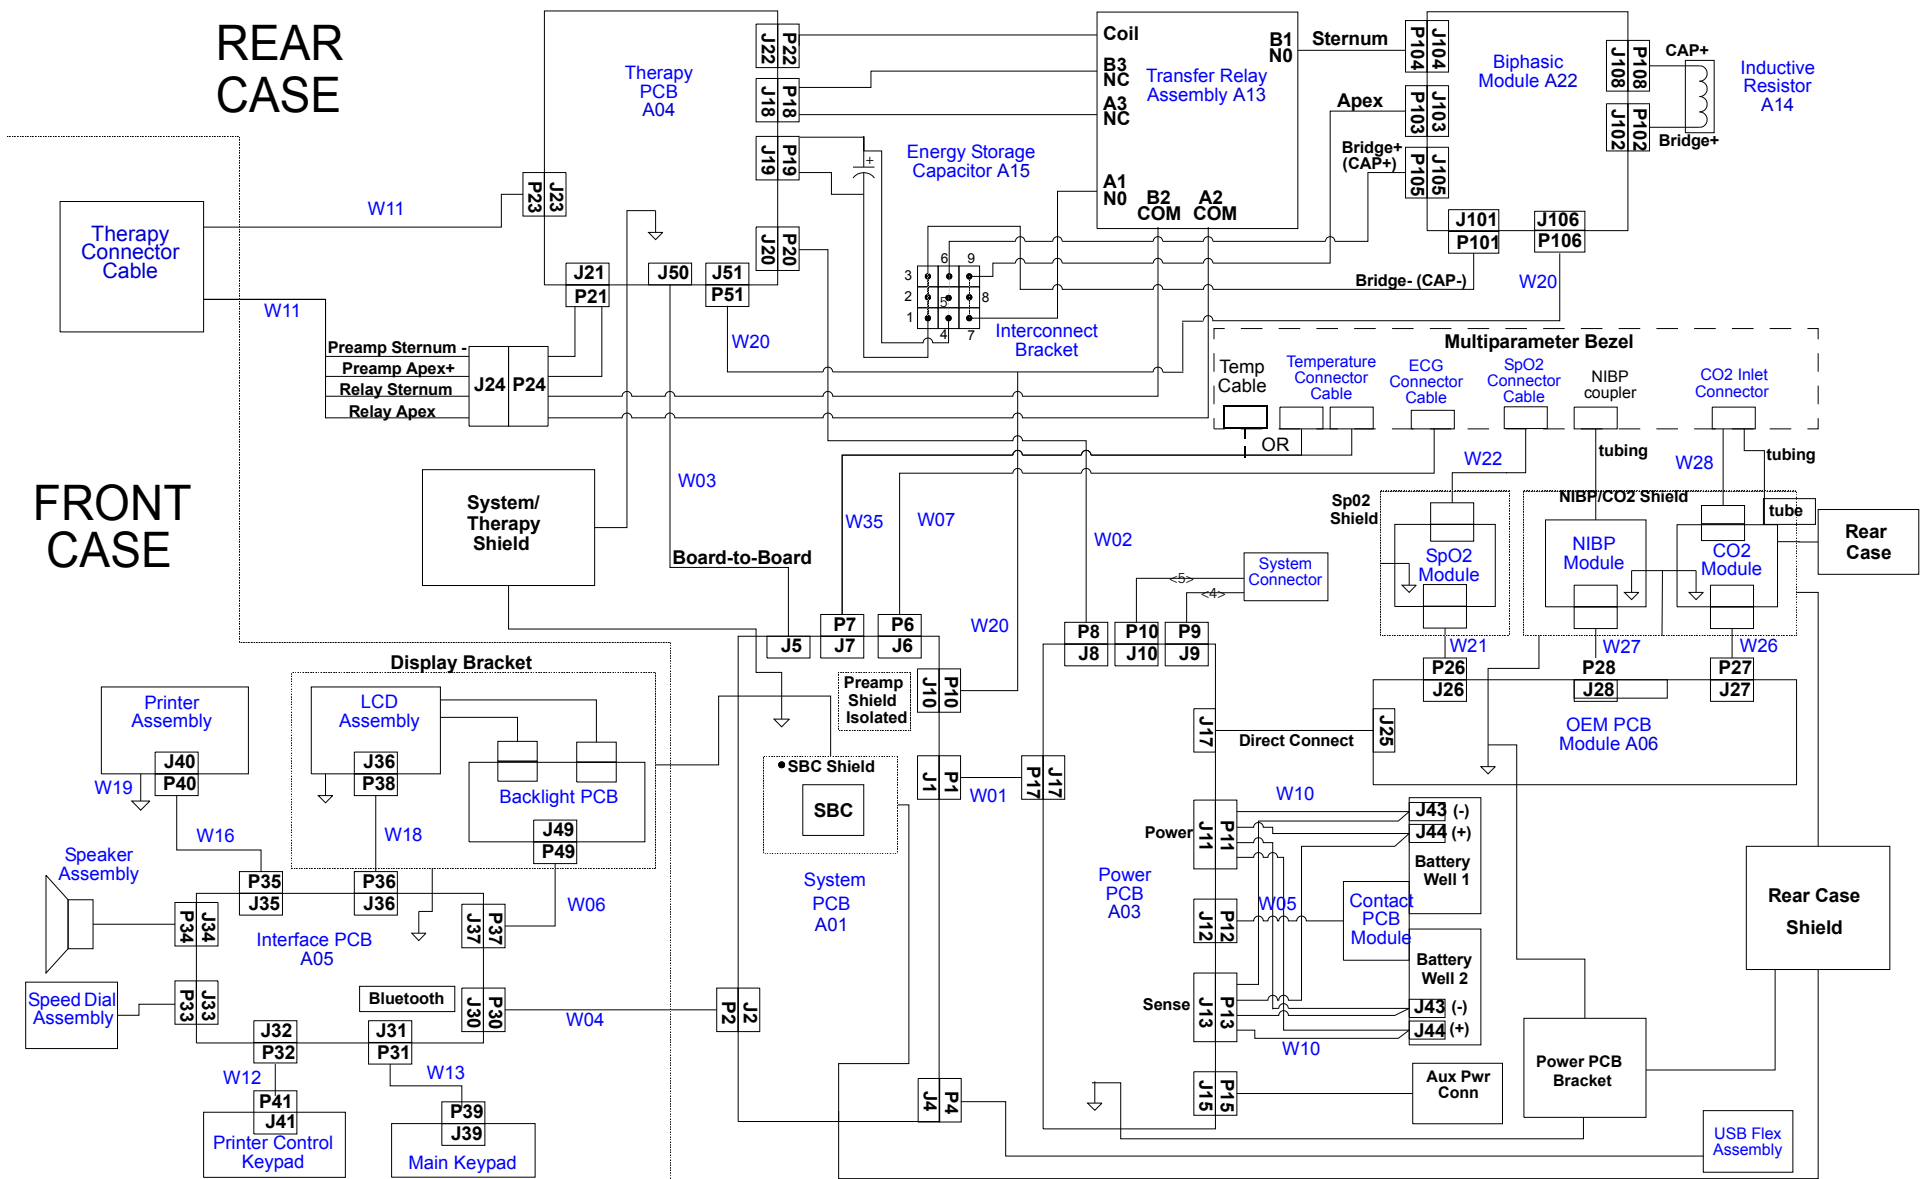

Figure 9.2—Interconnect diagram with detailed assembly, cable interconnect information, and links to each part diagram.
- Interconnect Diagram (Figure 9.2 on p. 370)—shows detailed assembly and cable interconnect information and provides links to each part diagram.